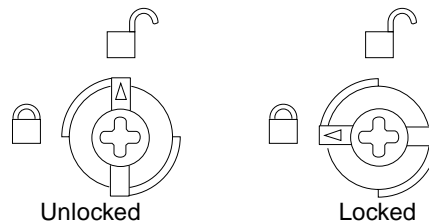

FIGURE 1-2 Unlocking and Locking Quarter-Turn Access Slots
3. With a Phillips #1 screwdriver, turn the two quarter-turn access slots to the unlocked position (FIGURE 1-2).
6. **Lock the board to the system card cage by inserting a Phillips #1 screwdriver into each quarter-turn access slot and then turning the slot to the locked position (FIGURE 1-2).**